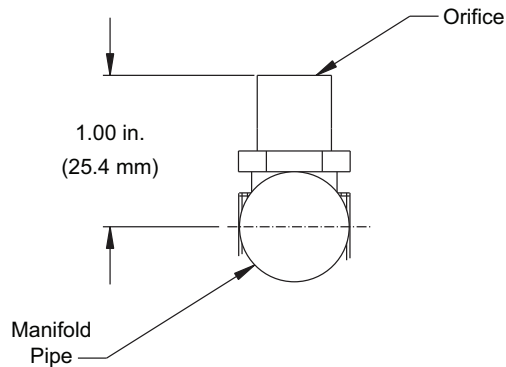

Fig. 42 — Orifice Projection
Refer to Fig. 42 for maximum projection dimension for orifice face to manifold tube.
5. If factory orifice has been removed, check that each orifice is tight at its threads into the manifold pipe and that orifice projection does not exceed maximum value. (See Fig. 42.)